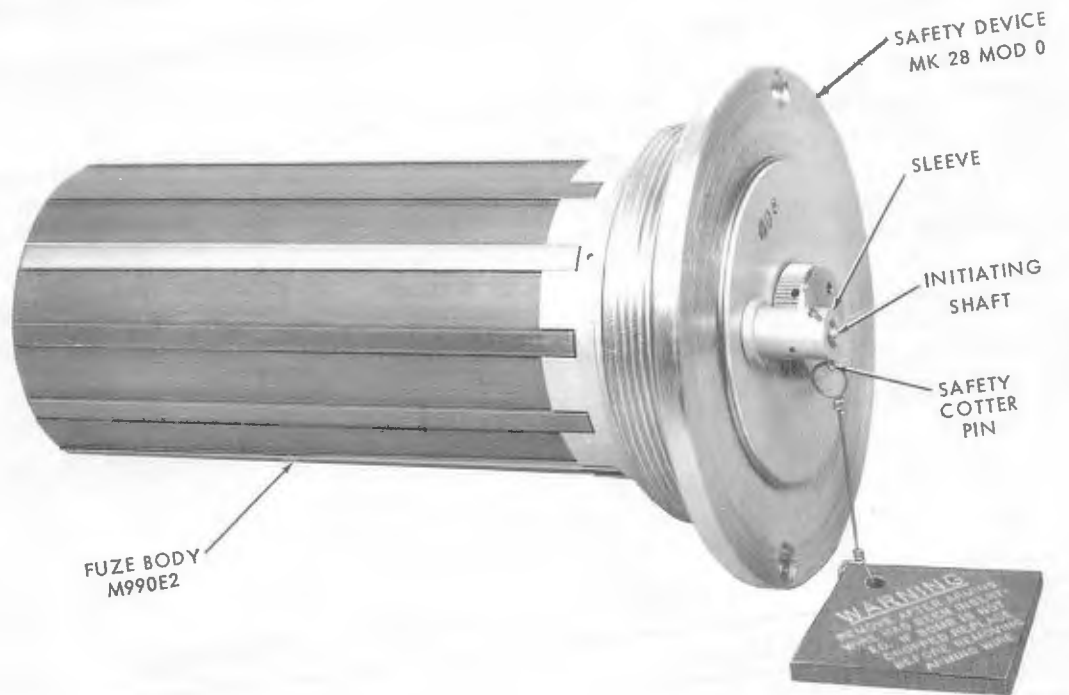

Figure 5-5 Safety Device Mk 28 Mod 0 (Retard Sensor)
1. The weapon is dropped and the arming wire is withdrawn from the initiating shaft in the fuze (Fig. 5-5). Deceleration of the retarded weapon begins.
If the safety cotter pin (Fig. 5-5) is accidentally removed and the initiating shaft released prior to installation of the fuze in a weapon, the clockwork escapement mechanism will run down and the safety pin will be withdrawn from the rotor. An inherently hazardous condition will exist however, only if the bellows of the detonator rotor (Fig. 2-5) are somehow initiated.